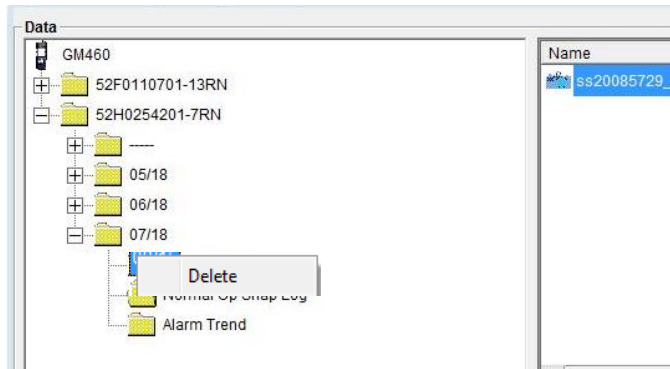

Figure 51: Delete Box
6. When the password has been entered and **Continue** clicked, the **Delete Data** Window (if a folder is selected for deletion) or **Delete Sample** Window (if a file is selected for deletion) will appear asking you to confirm that you want to delete the selected folder or file. In the example below, the **Delete Data** Window appears because the data folder shown in Figure 51 has been selected for deletion.